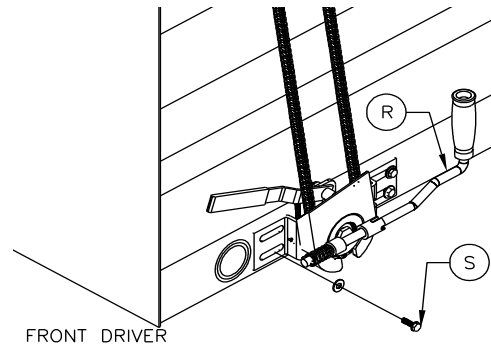
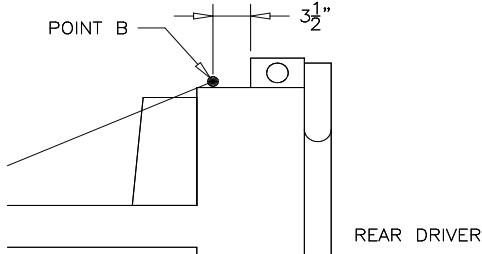
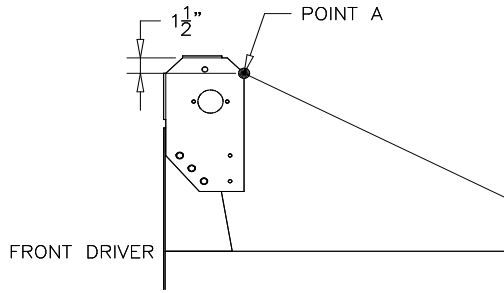
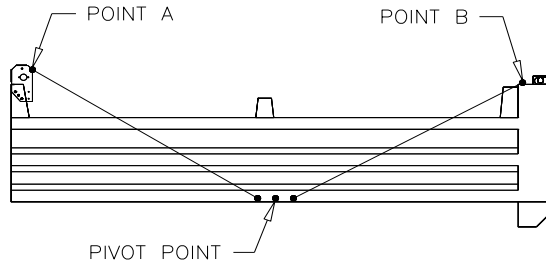

Figure 7
Figure 9
Figure 8
Figure 10
Procedure: Slide the 40X24 sprocket (P) and 1X hub on the rolltube end (see Figure 8). Loosen the 3/4" bolt slightly so you can adjust the angle of the chain guard. Place the #40 roller chain (Q) on the 40X24 sprocket (P) (see Figure 9). Hang the bottom crank (R) from the #40 chain. Apply a downward force on the bottom crank (R) to stretch out the chain. Adjust the angle of the chain guard so the chain clears. Mark the slots of the bottom crank in the lower dump body. Tighten the 3/4" bolt with the chain guard is properly positioned. Using a 11/32" drill bit, drill four holes through the right sides of the bracket slots. Fasten the bottom crank to the box with the 3/8"x1-1/4" self threading bolts (S) and 3/8" flat washers provided (see Figure 7).
Measure from Point A (see Figure 8) to a point on the lower inside rib of the box that is close to the pivot point (see Figure 10). Mark this point and record the distance as X. Using distance X, measure from Point B (see Figure 9) to a point on the lower inside rib of the box (see Figure 10). Mark this point.
Divide the distance between the first and second mark by two and mark this point as the pivot point (see Figure 10).
Measure the distance from Point A (Figure 8) to the center of the 3/4" pin on the pivot arm bracket (T). Record this as "Distance C". Lay the bottom pivot arm on the ground with the mounting flat on the top side of the tubing. Place one of the top pivot arm on the bottom pivot arm so the remaining cast elbow is in line with it. Have the 1" pipe sticking up. Slide the top pivot arm along the bottom arm until the distance from the center of the 1" pipe to the center of the mounting hole is the same as the Distance C.
Slide the rear pivot arm crossmember (F) through the rear tarp pocket. Position the rear pivot arm crossmember at Point B (see Figure 9).
Adjust the rear pivot arm crossmember (F) and the pivot arm brackets (N) so they are at Point B (see Figure 9).